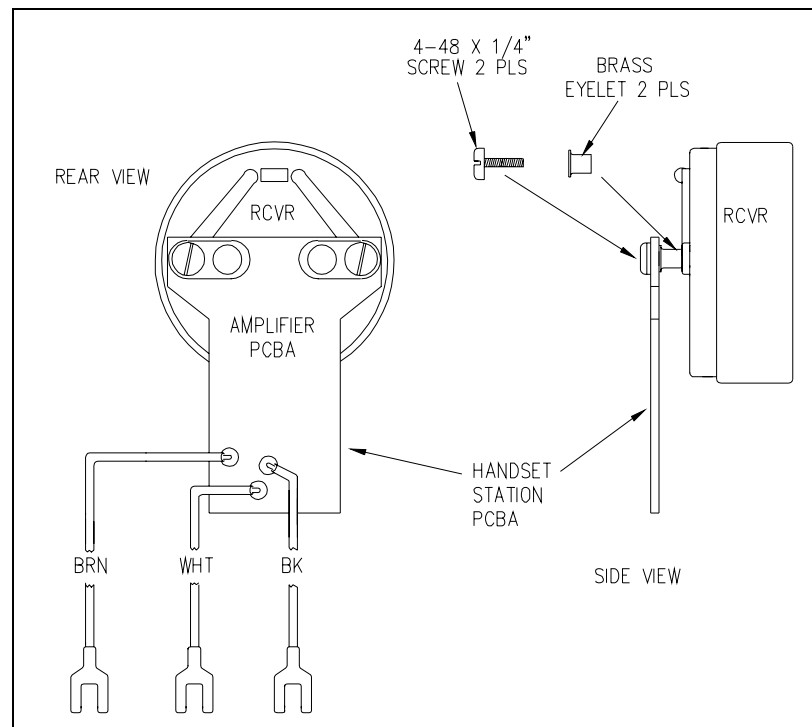

Figure 2. Receiver/Amplifier Installation Diagram
1. Place the new receiver element on a flat surface, and install the amplifier printed circuit board assembly (PCBA) on the receiver using the brass eyelets and screws provided as shown in Figure 2.